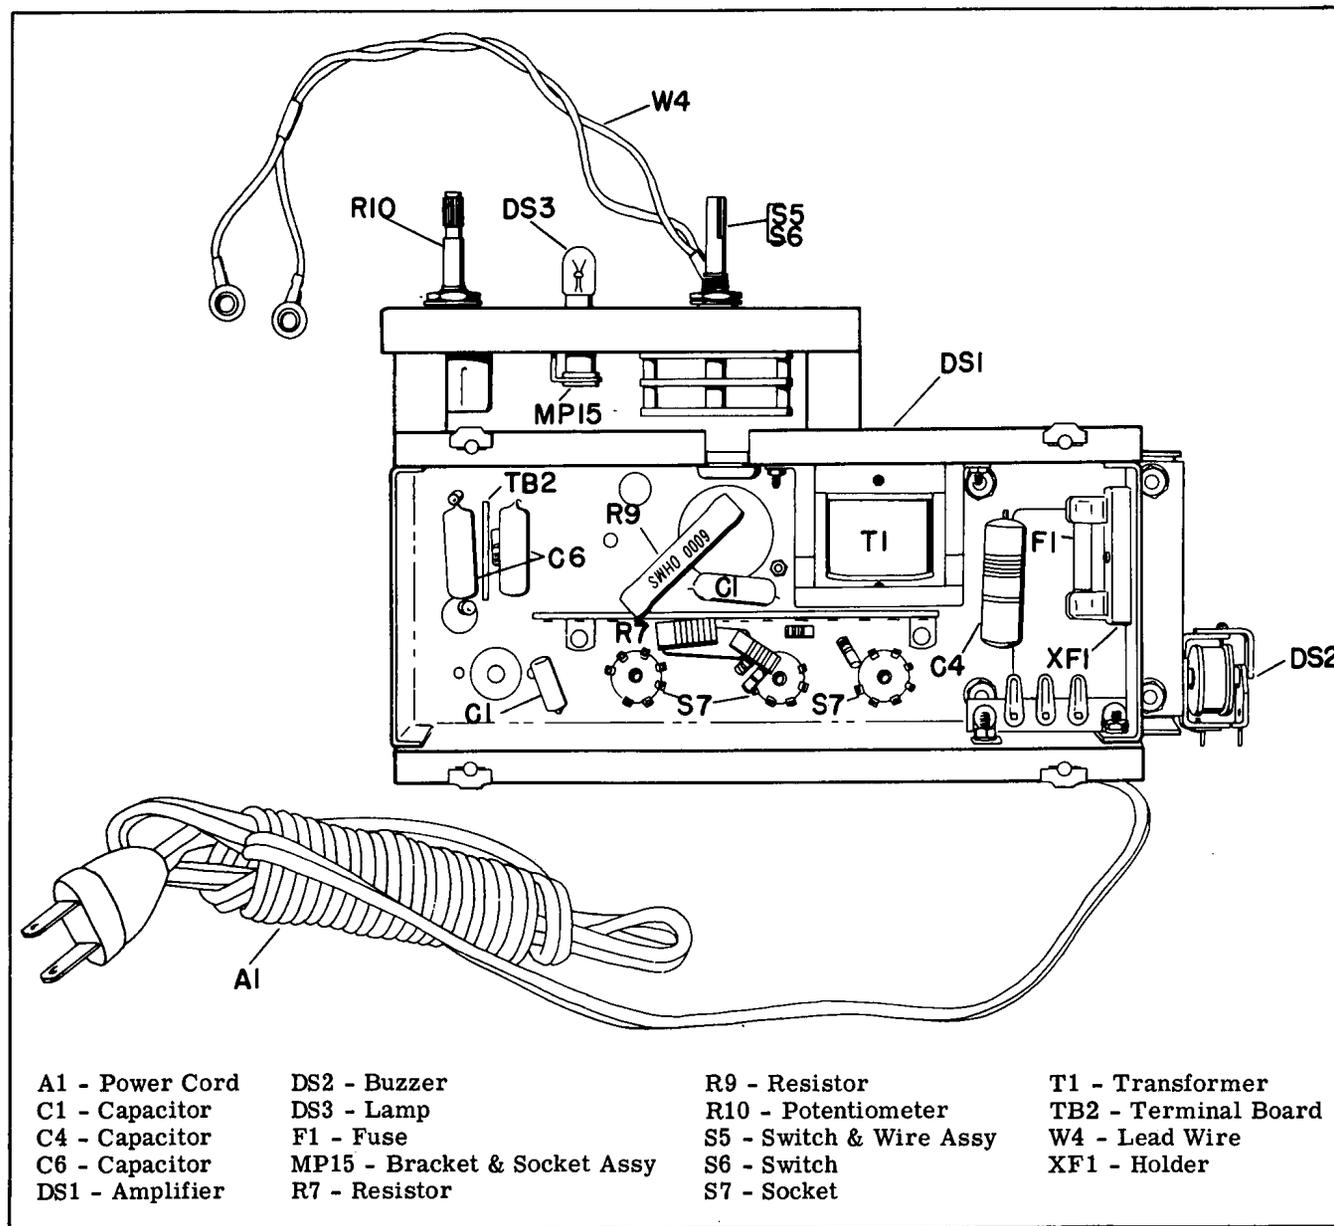

FIG. 7
- Figure 7 Master-Station Amplifier - Location of Components (Bottom View)